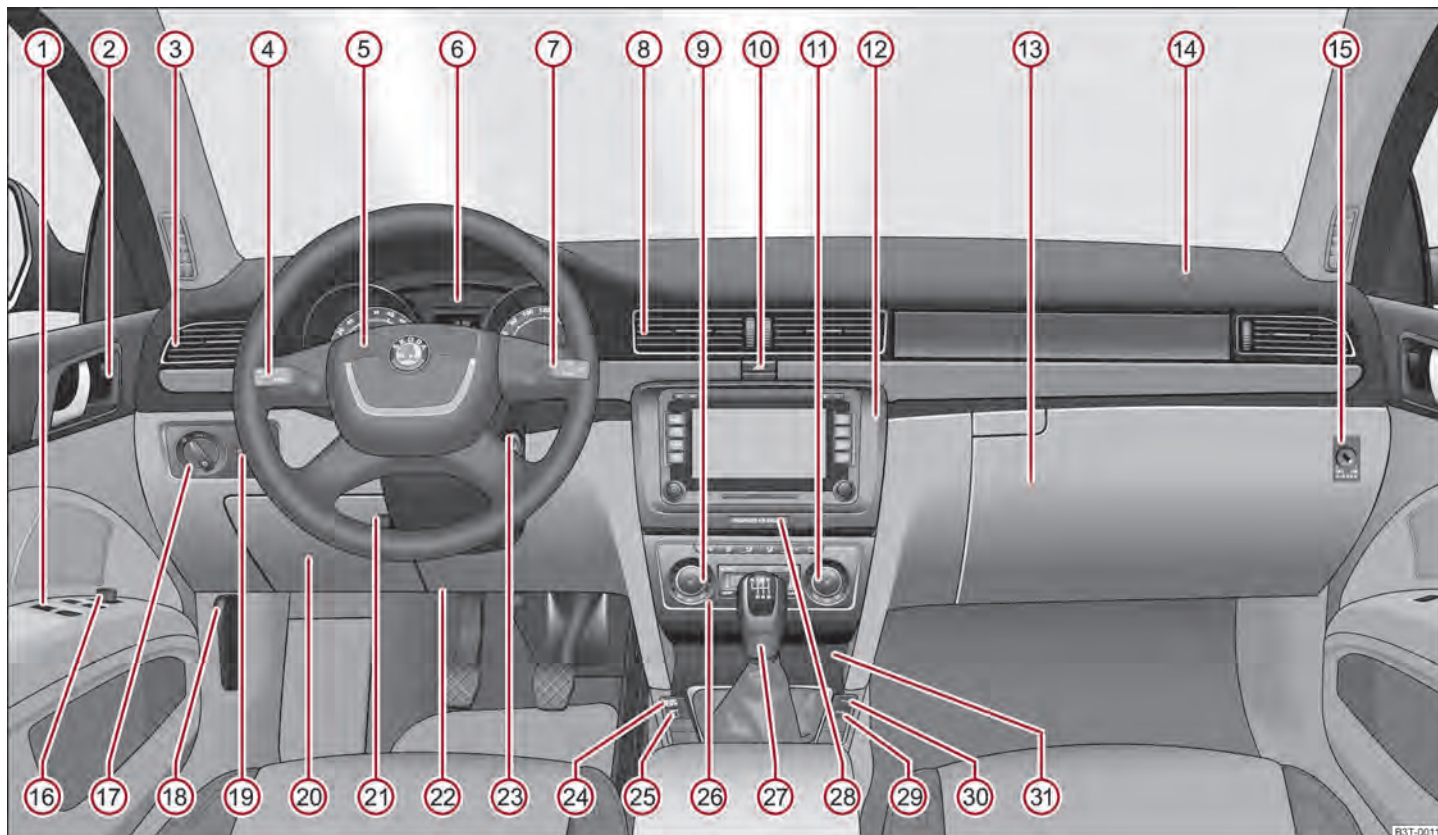

Fig. 1 Cockpit
- The arrangement of the controls and switches and the location of some items on right-hand drive models may differ from that shown in ⇒ fig. 1. The symbols on the controls and switches are the same as for left-hand drive models.